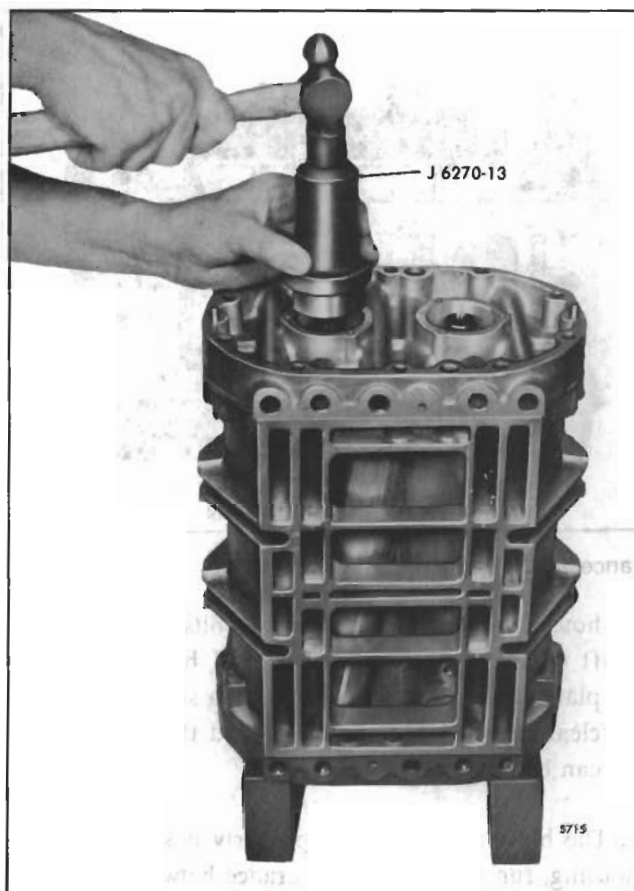

Fig. 17 - Installing Roller Bearings on Rotor Shafts and in Front End Plate
- Reverse the position of the blower housing on the two wood blocks (Fig. 17).
b. Place installer J 6270-13 on top of the bearing and tap the bearing straight on the inner race and into the front end plate as shown in Fig. 17.